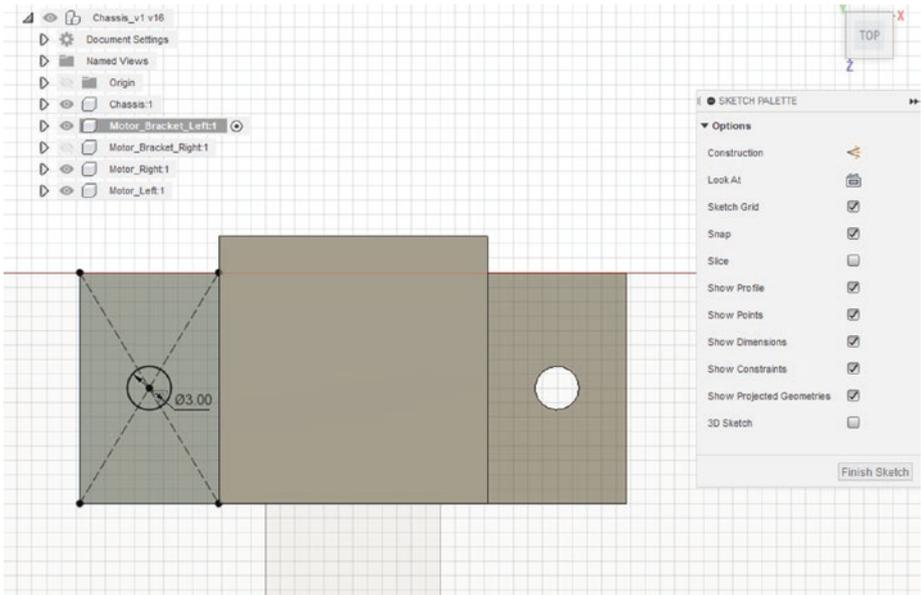

Figure 6-66. Create the holes for the motor bracket
34. Make two 3mm holes in the center of each of the wings of the bracket. See Figure 6-66.